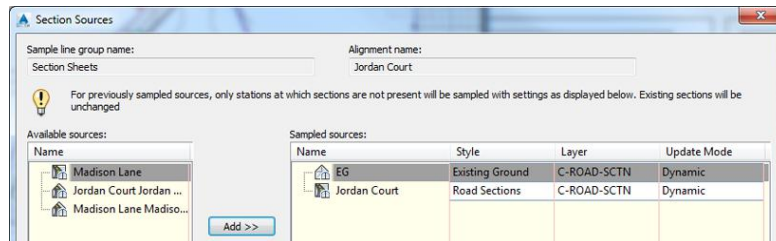

FIGURE 10.10 Sampling additional sources using the **Section Sources** dialog box
5. Verify that the **Section Sources** dialog box looks like Figure 10.10, and then click **OK**.